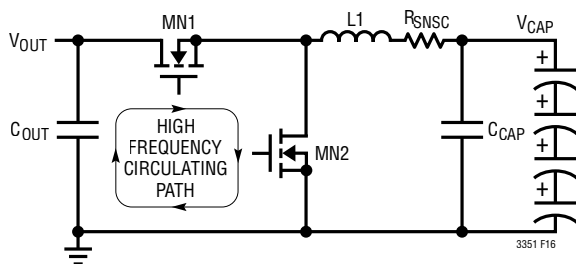

Figure 16.
2. Referring to Figure 16, keep MN1, MN2 and C_{OUT} close together. The high di/dt loop formed by the MOSFETs, Schottky diodes and the V_{OUT} capacitance should have short, wide traces to minimize high frequency noise and voltage stress from inductive ringing. Surface mount components are preferred to reduce parasitic inductances from component leads. Connect the drain of the top MOSFET directly to the positive terminal of C_{OUT} . Connect the source of the bottom MOSFET directly to the negative terminal of C_{OUT} . This capacitor provides the AC current to the MOSFETs.